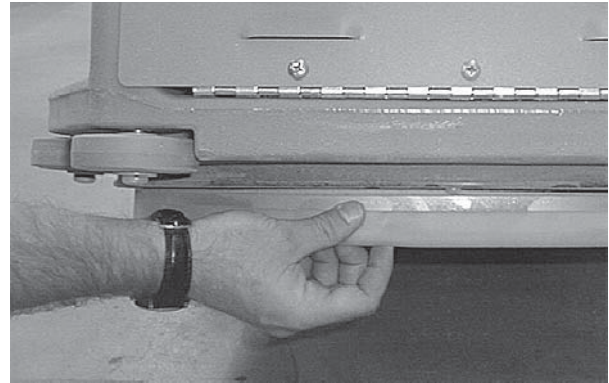

FIG. 30
6. Check the condition of the dust skirt, replace if worn (Figure 30).